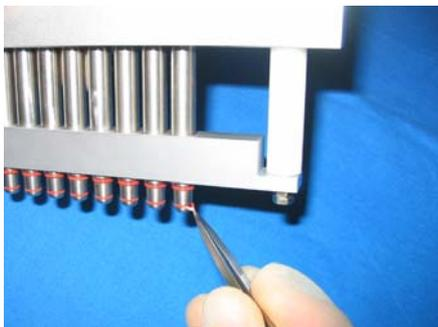

Fig. 10.2.3-1 : Removing O-ring
- (1) Open the right side of the unit cover.
- (2) Remove external O-rings with forceps (Fig. 10.2.3-1).
- (3) Place smaller O-ring in the bay near to the top of the nozzle (Fig. 10.2.3-2, 10.2.3-3).